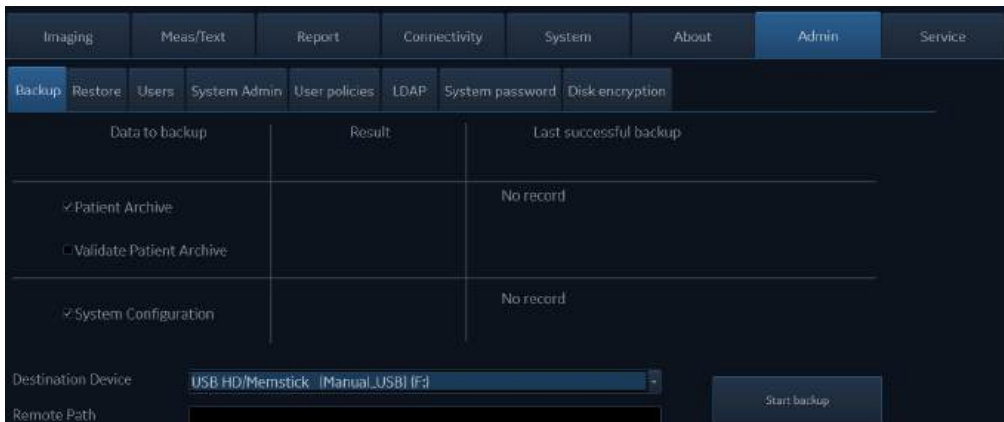

Figure 4-6. Backup Sheet
2. Access to the Config/Admin Menu, and select Restore. The Restore sheet will be shown on the LCD display. See Figure 4-6 on page 4-15.